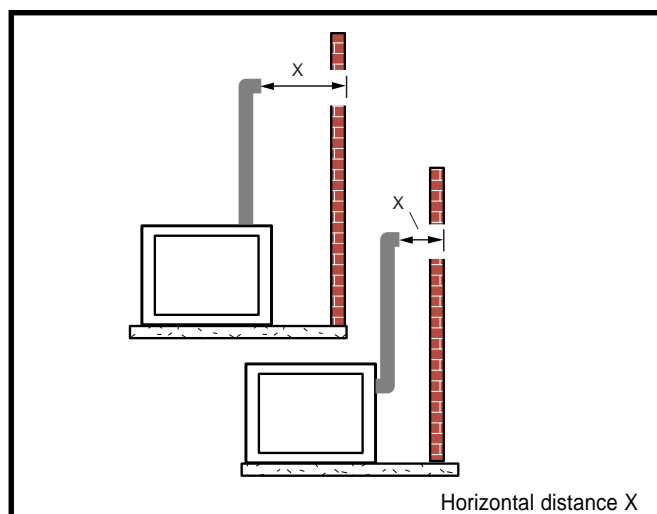

Fig. 28 Horizontal length requirements
Measure the horizontal length requirement including a 2" (51 mm) overlap, i.e. from the elbow to the outside wall face plus 2" (51 mm) (or the distance required if installing a second 90° elbow. (Fig. 28).
2. Remove soil to depth of about 16 in. (406 mm) below base of snorkel. Install window well (not supplied). Refill hole with 12 in. (305 mm) of coarse gravel, leaving a clearance of about 4 in. (102 mm) below snorkel (Fig. 28).